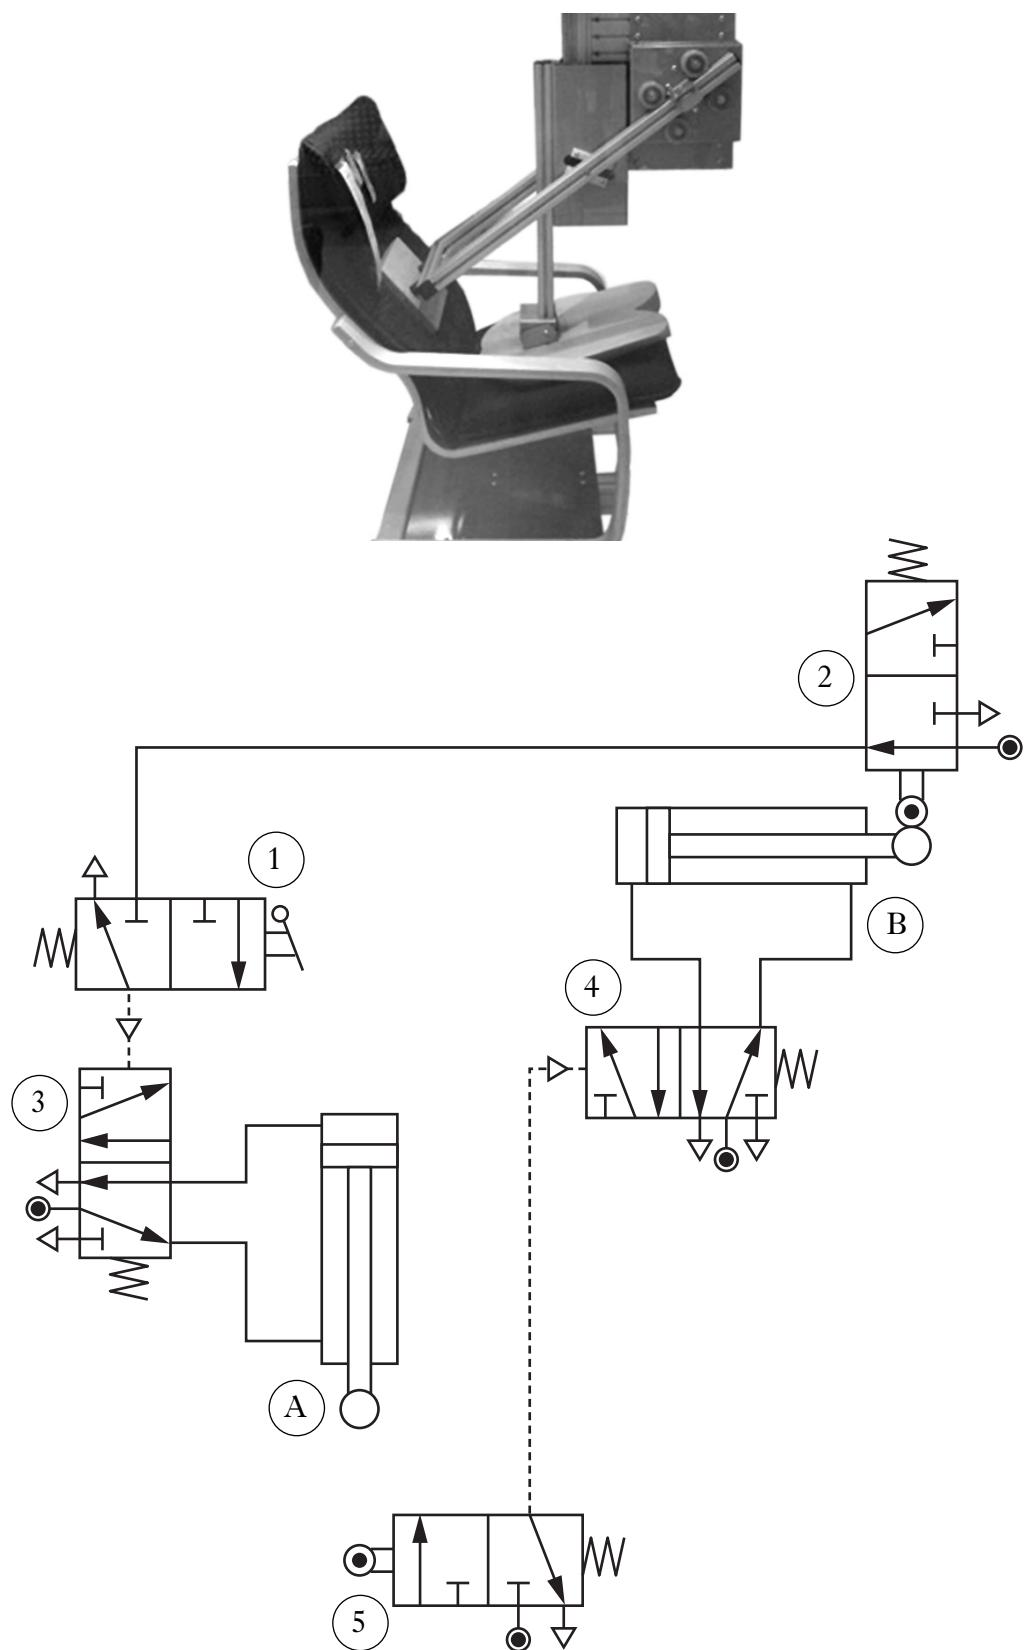

Figure Q8
8. The pneumatic circuit shown in Figure Q8 is used to test the life span of a chair.
(b) Describe, with reference to Figure Q8, the operation of the pneumatic circuit.